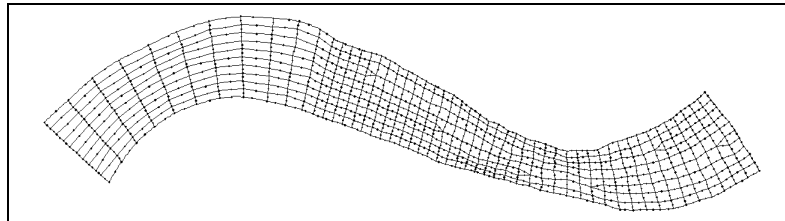

Figure 3-11. Example nodestrings for smoothing the mesh boundary.
3. Select *Nodestrings / Smooth*. The mesh boundary will be smoothed as shown in Figure 3-11.